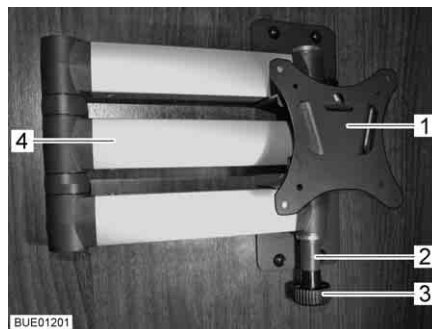

Fig. 67 Holder with jointed arm
- Pull the release knob (Fig. 67,3). The jointed arm (Fig. 67,4) is unlocked.
- Turn the flat screen back into the original position until the holder (Fig. 67,1) engages in the lock (Fig. 67,2).